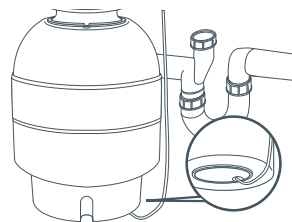

Fig. 14 Connecting tube to air switch outlet
- 5 Connect the other end of the PVC tubing to the air switch outlet, located on the underside of the waste disposer (fig.14).
- 2 Connect the other end of the PVC tubing to the air switch outlet on the underside of the waste disposer (as shown in fig.14).